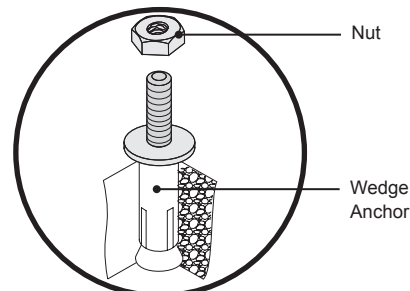

Figure 30. Wedge Anchor Installation
- 1 Insert the wedge anchor into the drilled hole. If necessary, use a hammer and gently tap the wedge anchor into place (Figure 30).